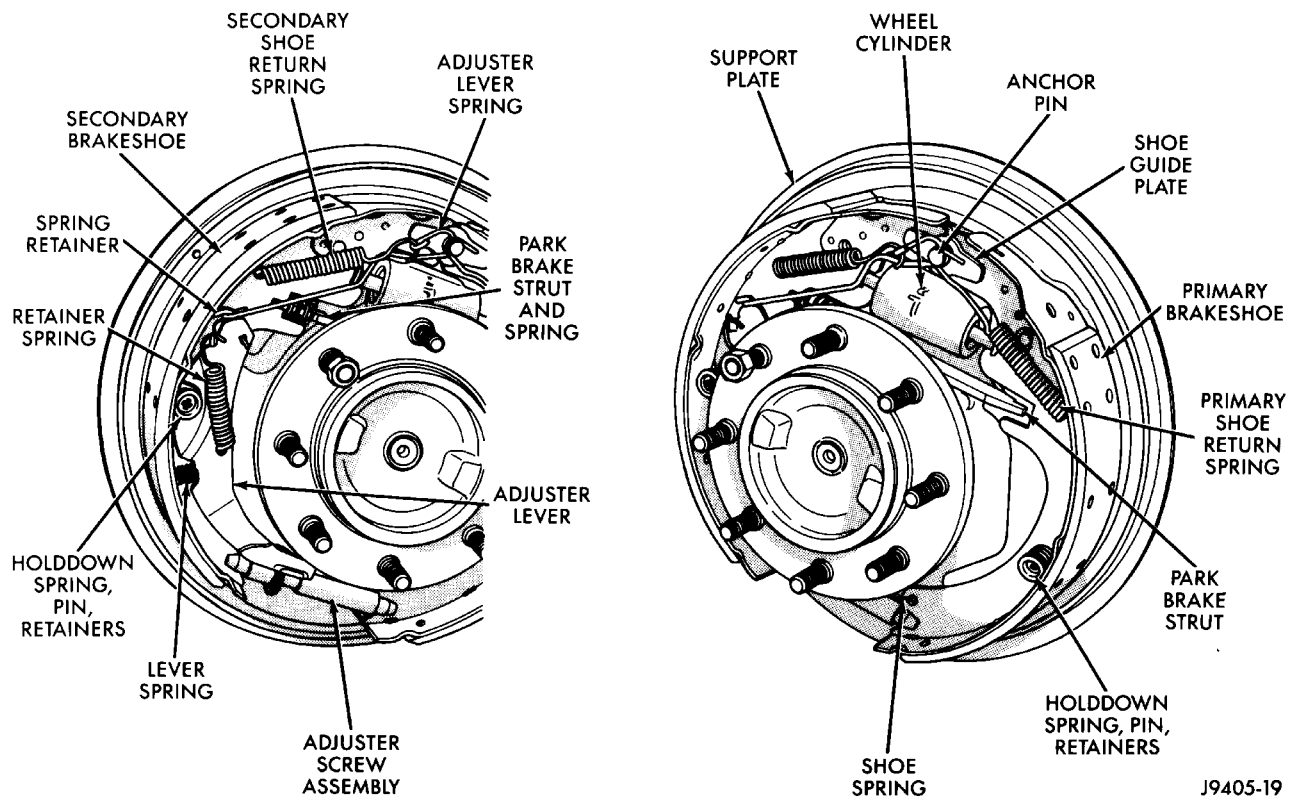

FIGURE 7 - Brake Shoes And Hardware
5. Remove primary (front) brake shoe return spring from anchor pin with brake pliers (Figure 7).